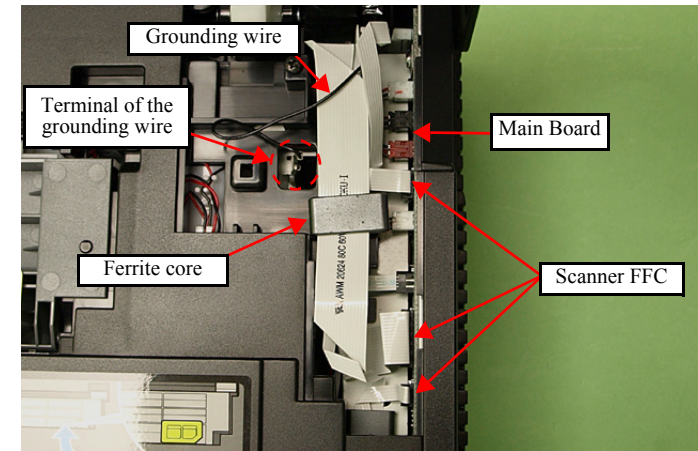

Figure 4-156. Removing the Scanner Unit (1)
- Make sure to insert the terminal of the grounding wire to the fixing rib of the frame. (See Fig. 4-156.)